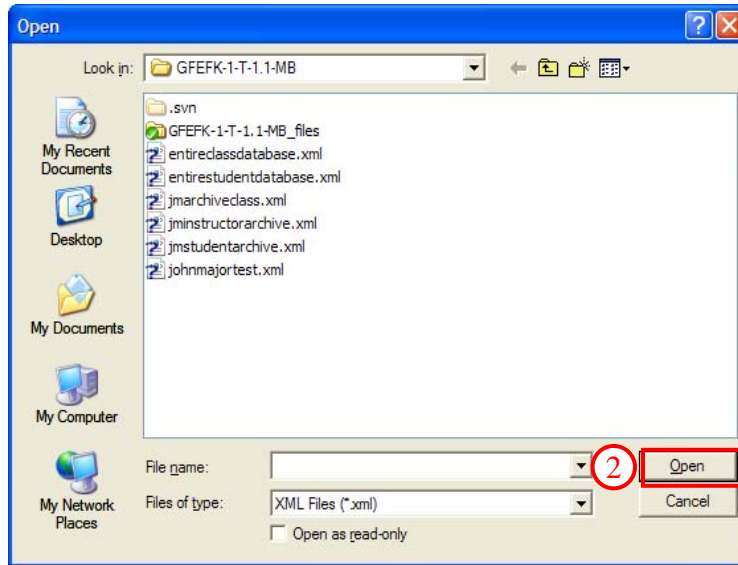

Figure 95. Retrieve Entire Database - Open Dialog
2. An Open dialog box is displayed (Figure 95). Navigate to the desired location, select a File name and click the [OPEN] button.